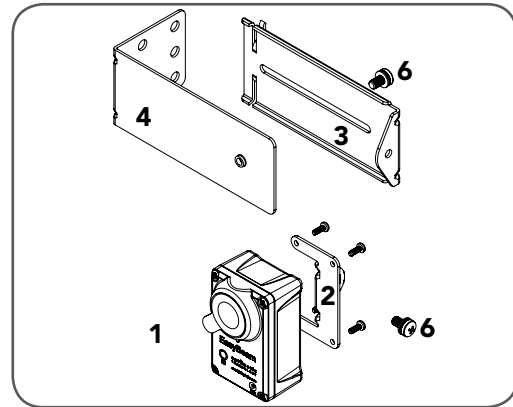

fig 46
- Attach the mounting bracket (4) to the adjustment bracket (3) with the pan head screw (6) (supplied). (Fig. 46)